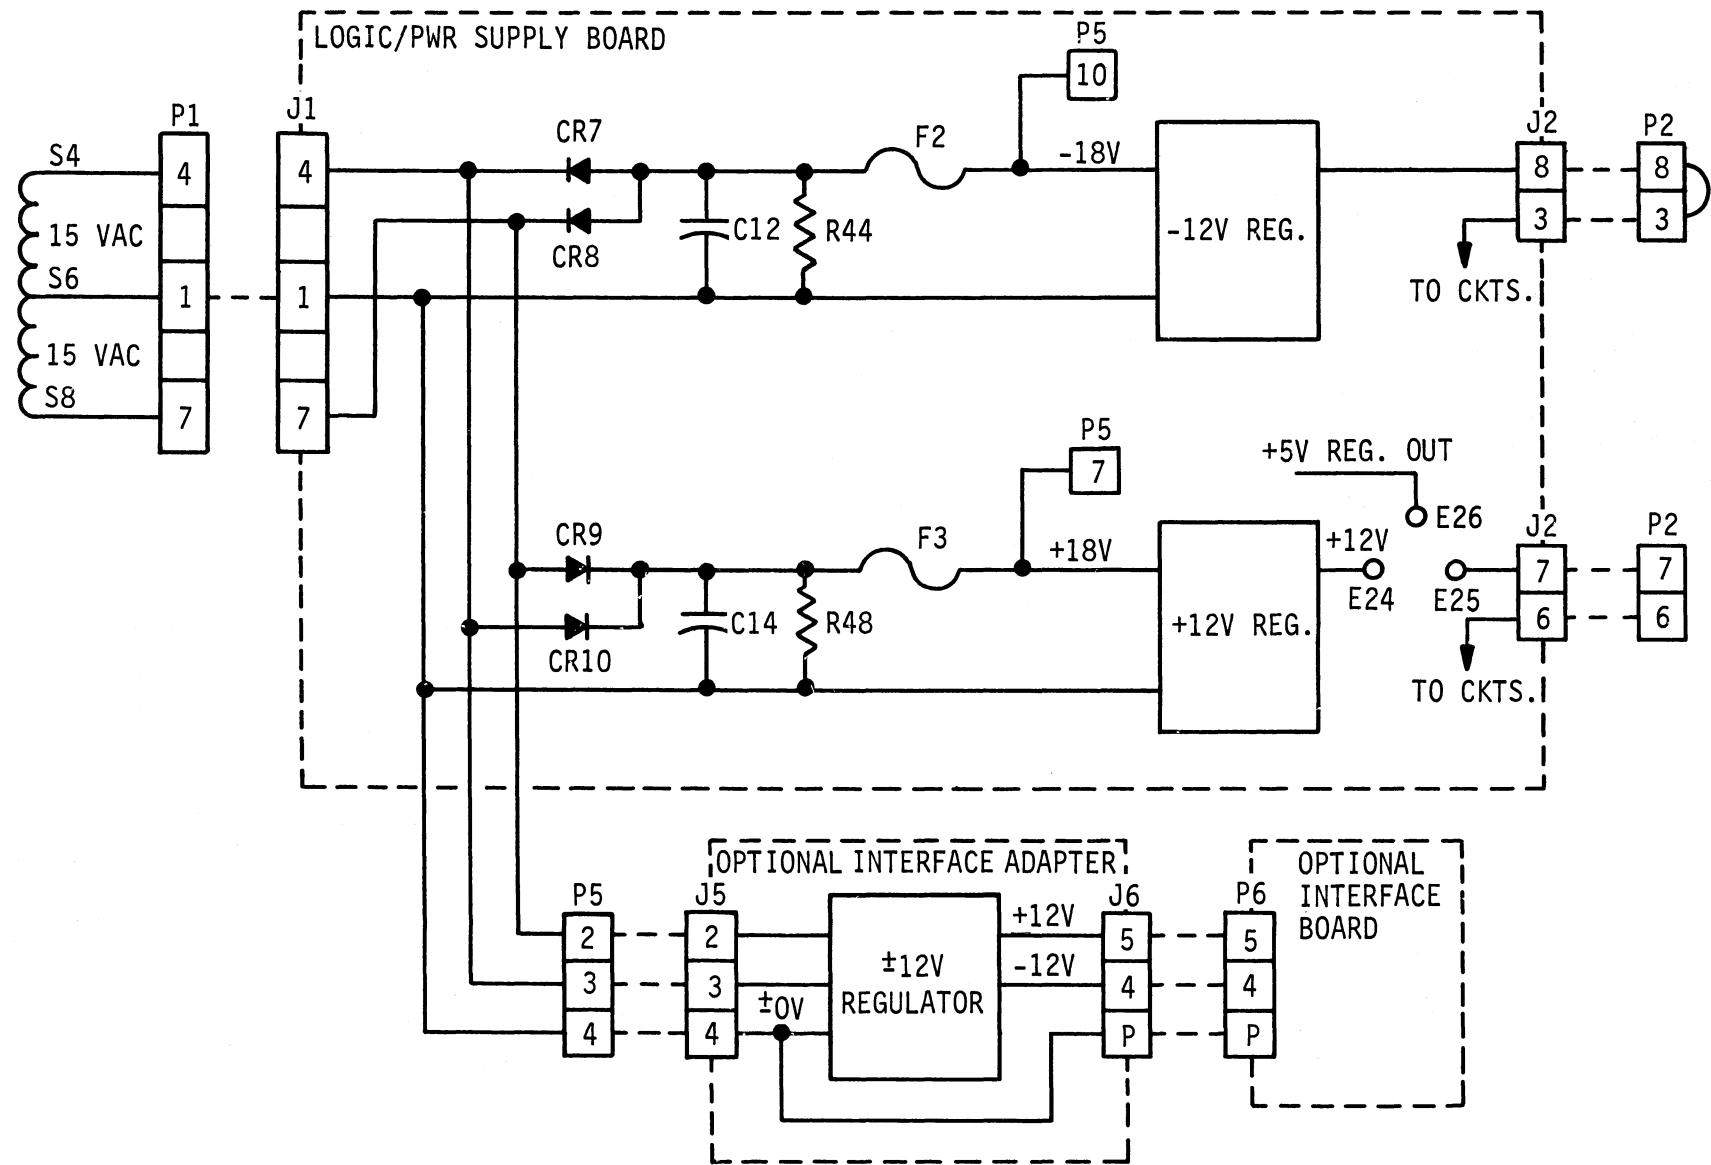

Figure 4-14. ±12V REGULATORS INTERCONNECTION DIAGRAM
4.9.2 +12V and -12V REGULATORS (Figure 4-14)